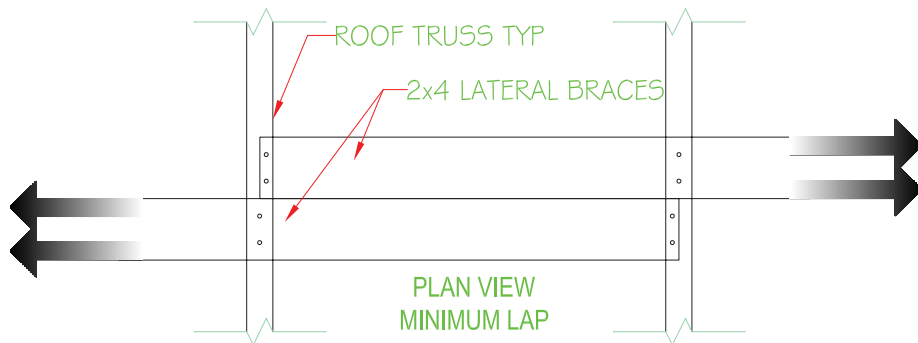

Figure 2. Overlaps of 24" or 48" for 2' and 4' on-center spacing respectively.
- 2.) Overlaps of 24" or 48" for 2' and 4' on-center spacing respectively: **4 end nails * 53#/nail = 212#** (See Figure 2.)